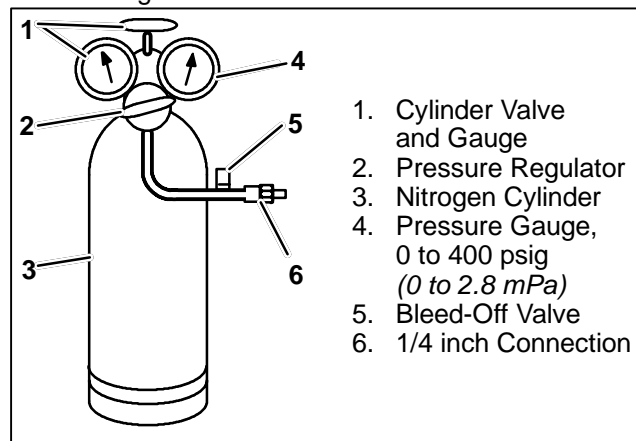

Figure 4-5. Checking High Pressure Switch
- c. Connect switch to a cylinder of dry nitrogen. (See Figure 4-5)